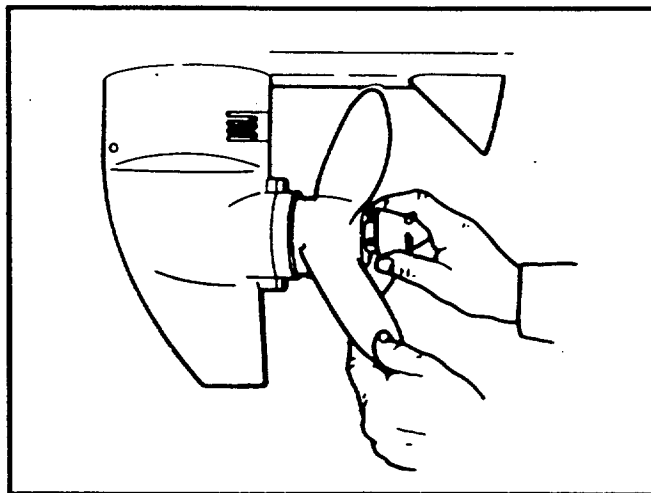
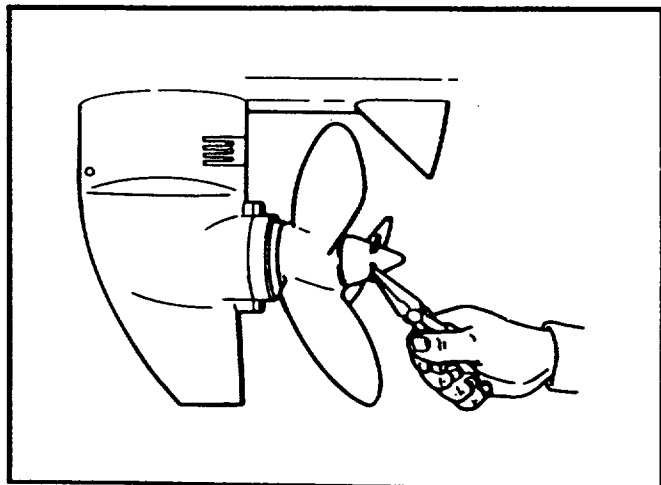

FIGURE 28
FIGURE 27
- Remove cotter pin (Figure 27) and pull off propeller nut (Figure 28).